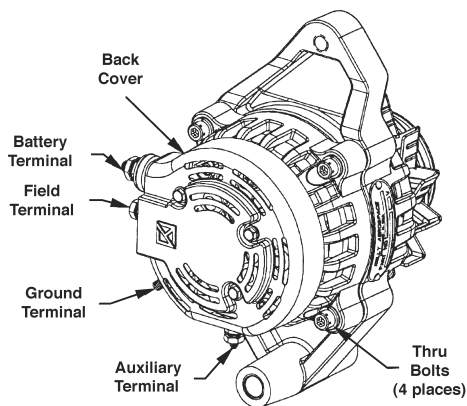

Figure 1 Primary Locations
10. Assure all power is removed from the aircraft by disconnecting the battery and any ground power source. Refer to Figure 1 & 2 to locate and remove the brush holder assembly. (*See material required section for brush holder assembly and hardware part numbers.*)
12. Disconnect the F1 (field) wire by removing hardware. Remove the three screws (3) and lock washers (32) that hold the back cover (27) in place and remove the back cover.